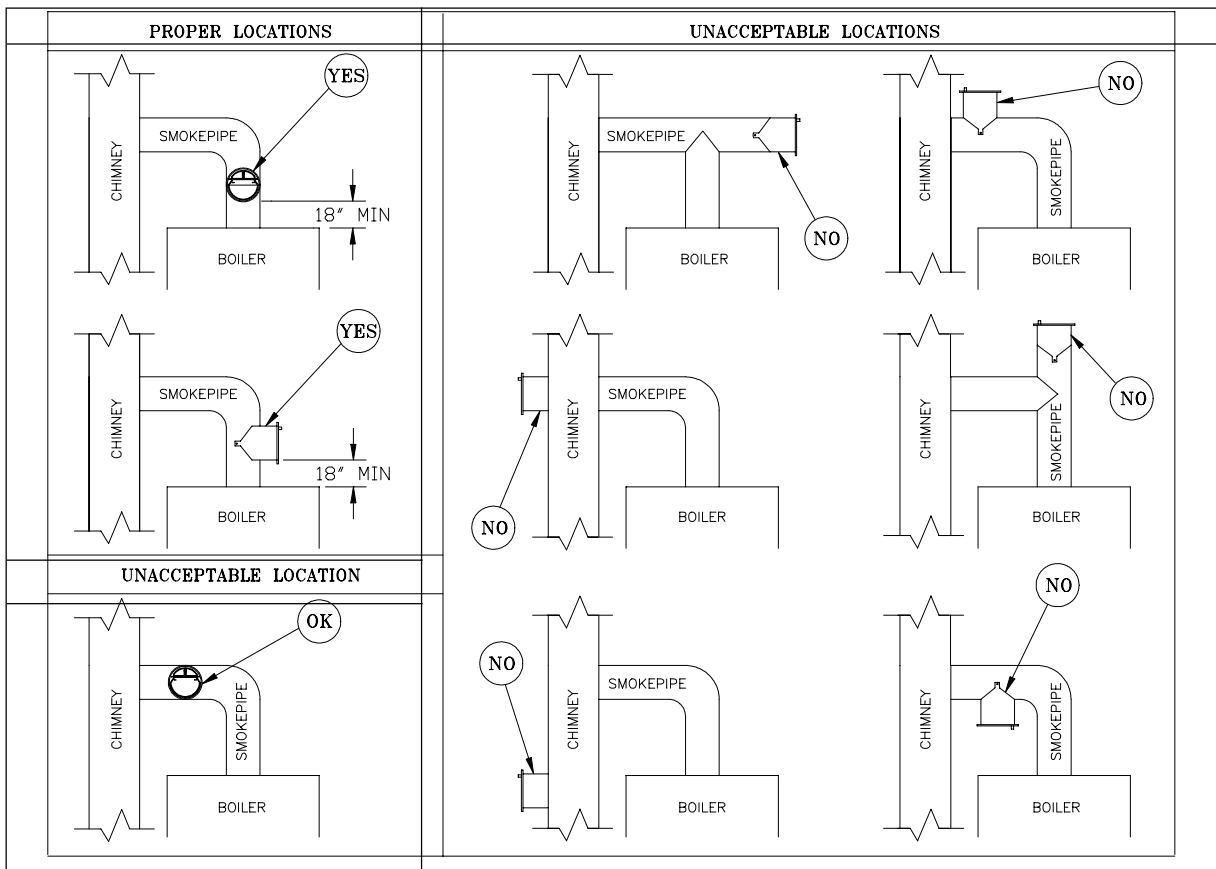

Figure 13: Draft Regulator Locations
- a. Install a draft regulator (supplied by installer) following the instructions furnished with the regulator. See Figure 13 for alternate regulator locations.